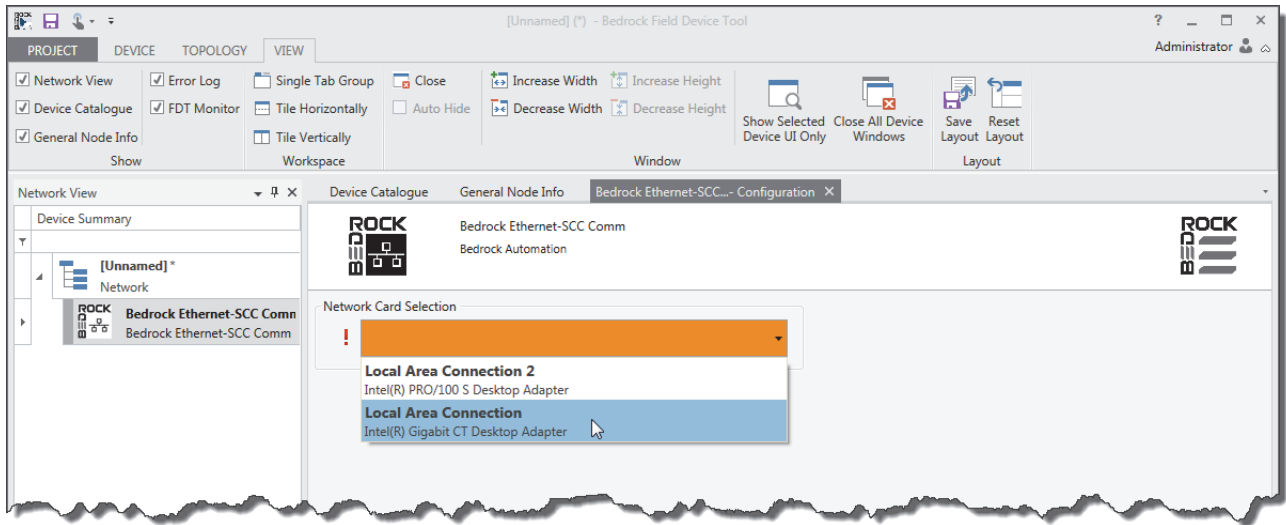

Figure 11-4 Select Network Device
5. In the Network Card Selection pane, select the network card for the Controller that you are trying to connect to from the drop-down menu as shown in Figure 11-4.